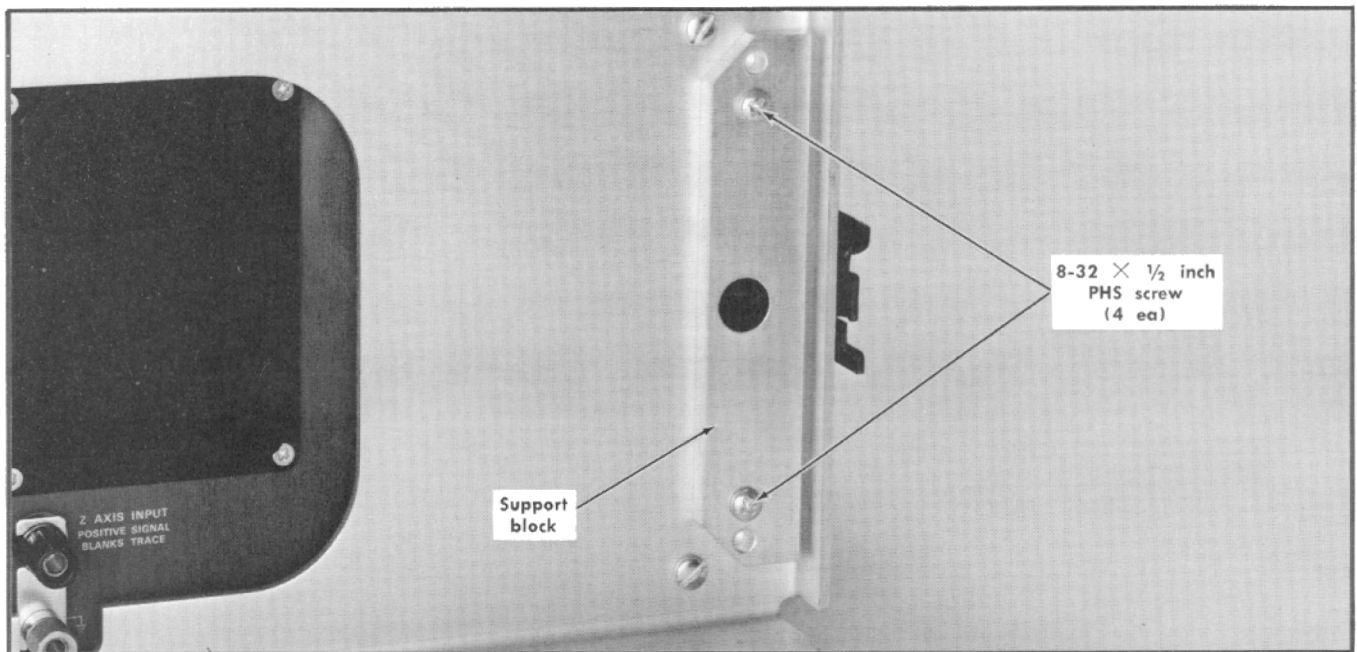

Fig. 10-8. Installing the support block on the instrument.
5. Install a support block on each side of the instrument as shown in Fig. 10-8.